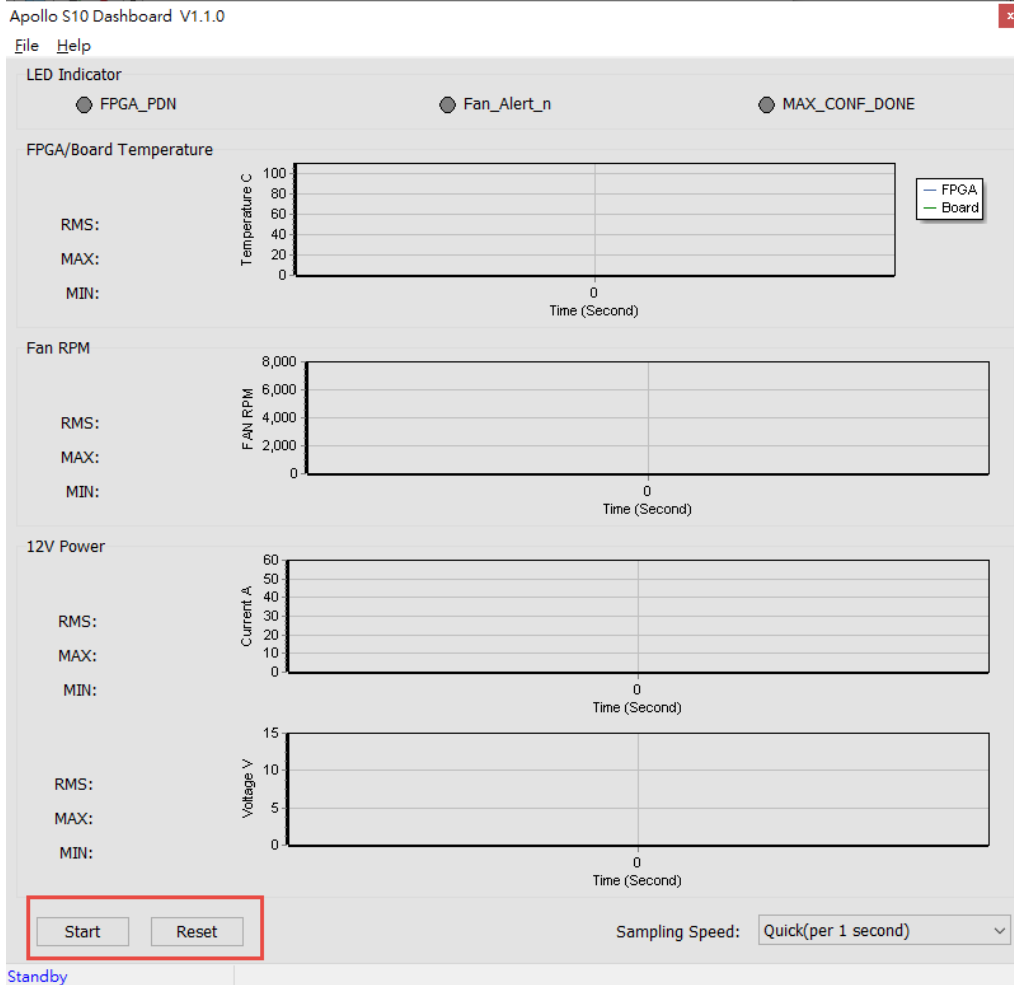

Figure 4-7 Start and Reset button
- **Start/Stop:** As shown in Figure 4-7, there is a Start button at the bottom-left of the GUI window. Click it to run the program (Start will change to Stop), it will show the Apollo S10 board status. Users can press Stop button to stop the status data transmission and display.